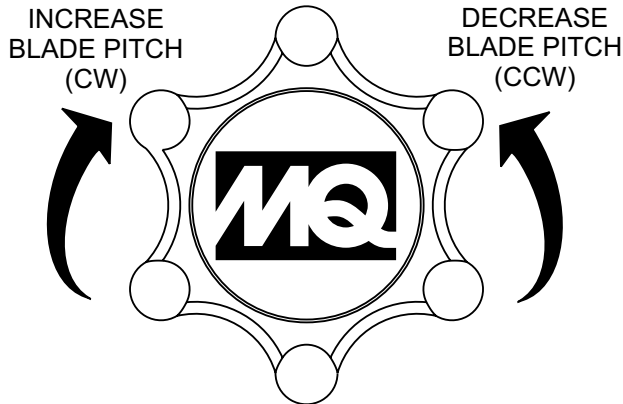

Figure 5. Adjusting Cable Blade Pitch (Folding Handle)
1. For trowels equipped with a **Folding** handle (FXHS), simply turn the **star wheel** counterclockwise to pitch the blades flat. This will release the tension on the blade pitch cable (Figure 5).